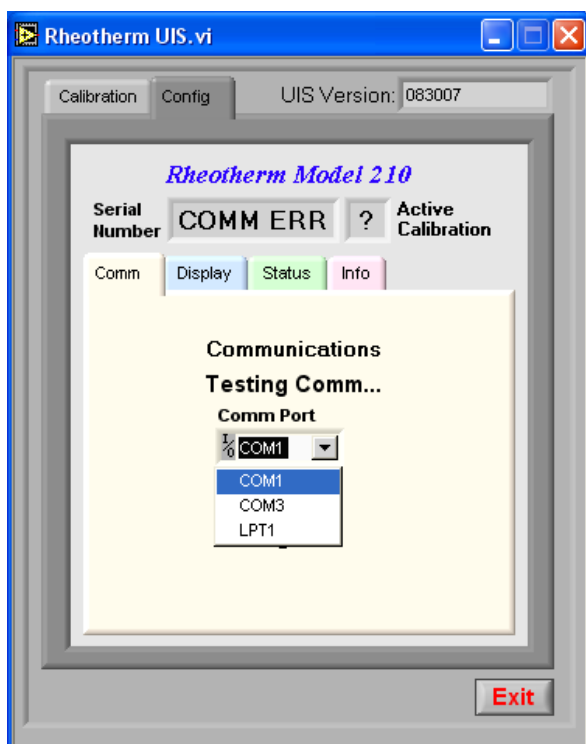

Figure 4 - Configuration Communication Form
- iii. The program window shown below should appear. Using the pull-down selection box labeled ‘Comm Port’ choose the port connected to the flow instrument (Figure 4).